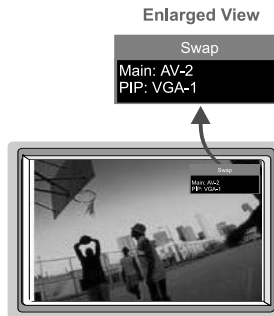

Figure 8: OSD SWAP Status
- Press the SWAP key on the Infra-red remote control transmitter (see Figure 47) The OSD SWAP status appears superimposed over the top right corner of the screen for a few seconds¹, as Figure 8 illustrates